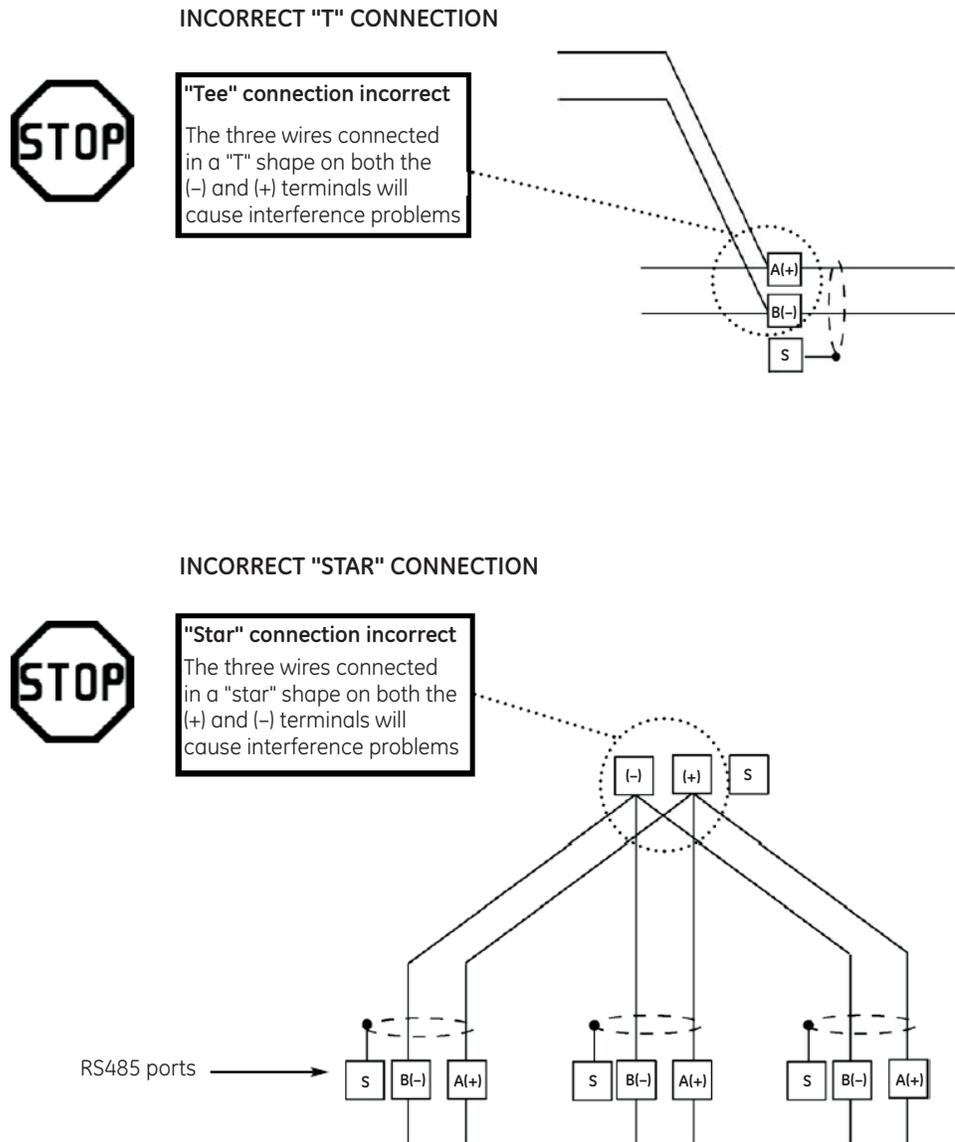

Figure 6-5: Incorrect “T” and “star” topologies
- Avoid both “star” and “tee” connections (see Figure 6-5: *Incorrect “T” and “star” topologies* on page 6-4). No more than two cables should be connected at any one point on an RS485 network, whether the connections are for devices, converters, or terminal strips.